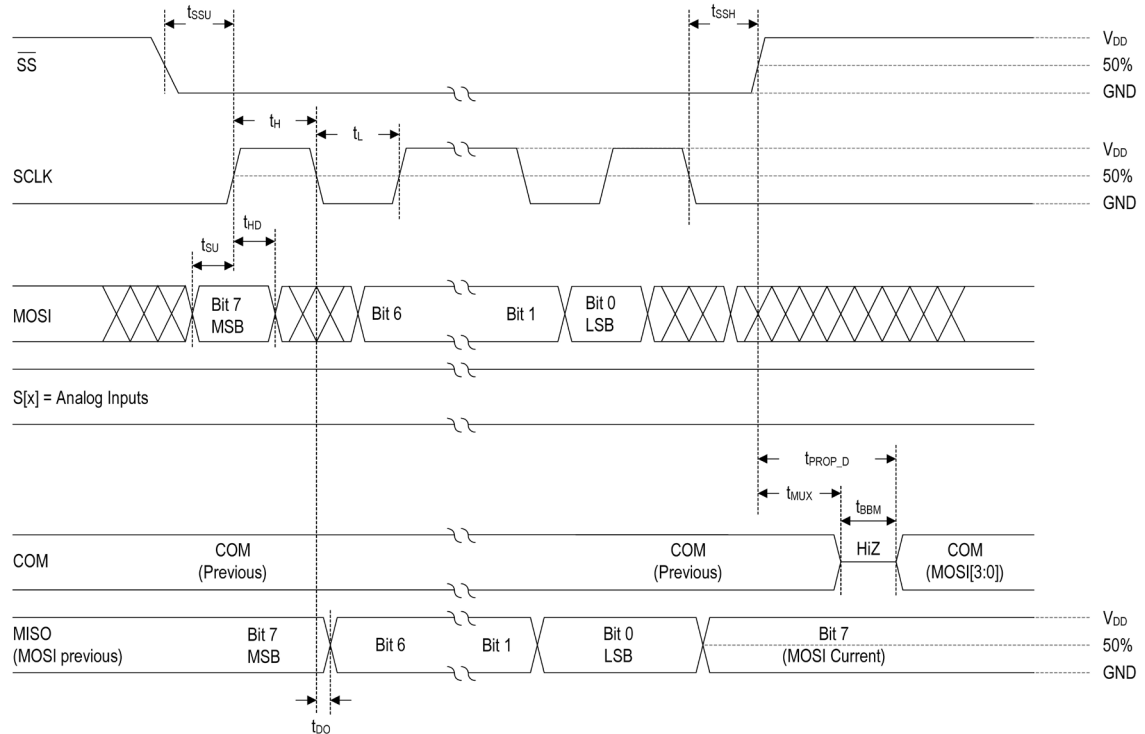

Figure 7. UT16MX115 Timing Diagram
- 1) See FIGURE 7. Multiplexer serial timing (UT16MX115), for detailed timing.